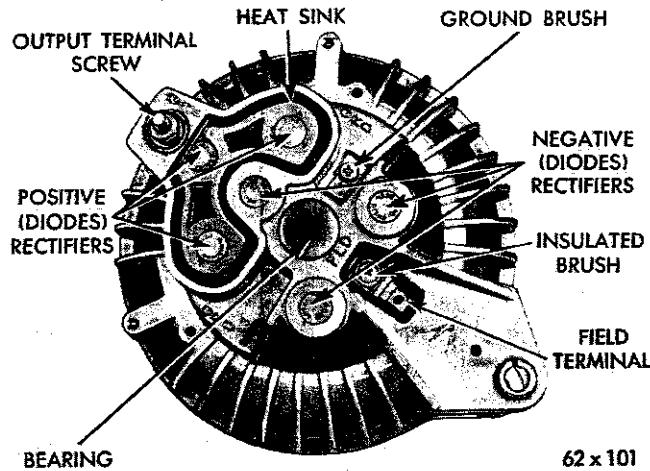

Fig. 1—Alternator Assembly
The alternator (Fig. 1) is fundamentally an A.C. current generator, with six (6) built-in silicon rectifiers, that convert the A.C. current into D.C. current. D.C. current is available at the "output" "BAT" ter-